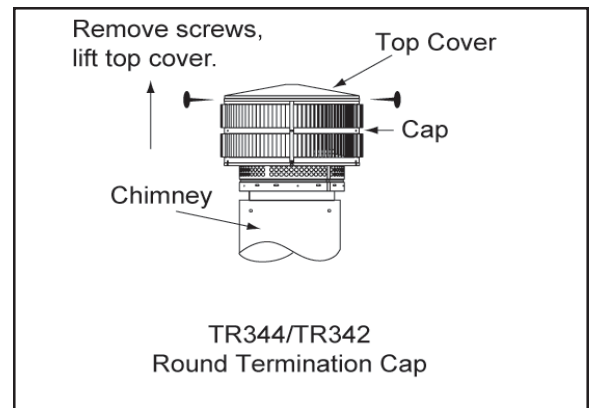

Figure 24
- c. Remove the termination cap or housing top. See Figure 24.